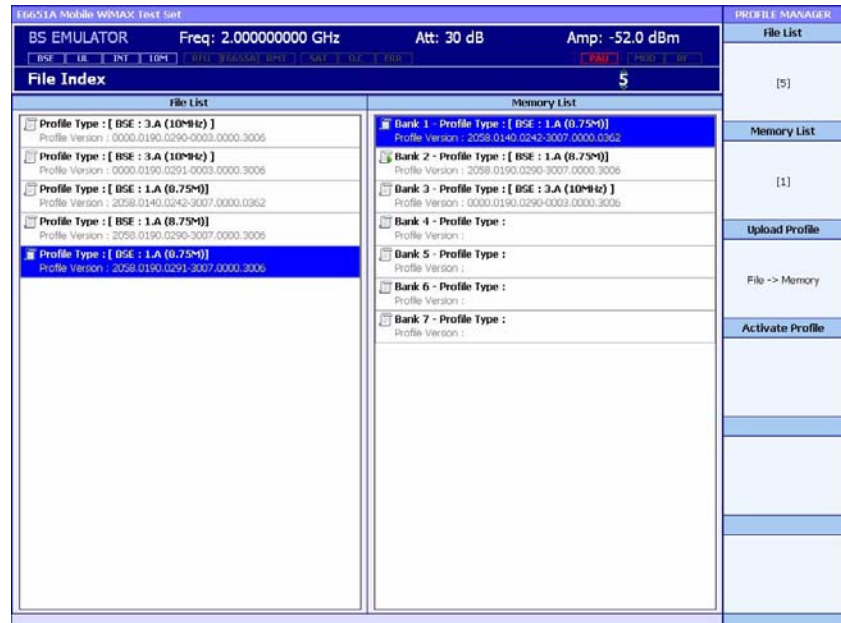

Figure 52 Certification Profile Selection window
- 1 Press **System > More > Profile Manager** to display the Profile Manager screen as shown in Figure 52.